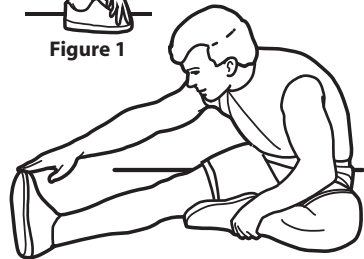

Figure 2
- D. If the belt drifts to the right, turn the left adjustment bolt 1/4 turn counter-clockwise or the right adjustment bolt 1/4 turn clockwise. (See FIG. 2)
Hamstring Stretch: Sit on a clean mat with one leg extended straight. Tuck the other leg in so that its foot is close to the inner thigh of the extended leg. Reach towards your toes with your hands. Hold for 10-15 seconds, then relax. Perform this stretch three times for each leg (see Figure 2).